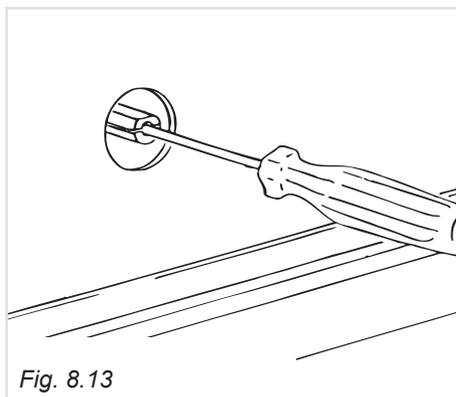

Fig. 8.13
- With a small flat screwdriver turn the screw inside the tap rod to the correct regulation (fig. 8.13).